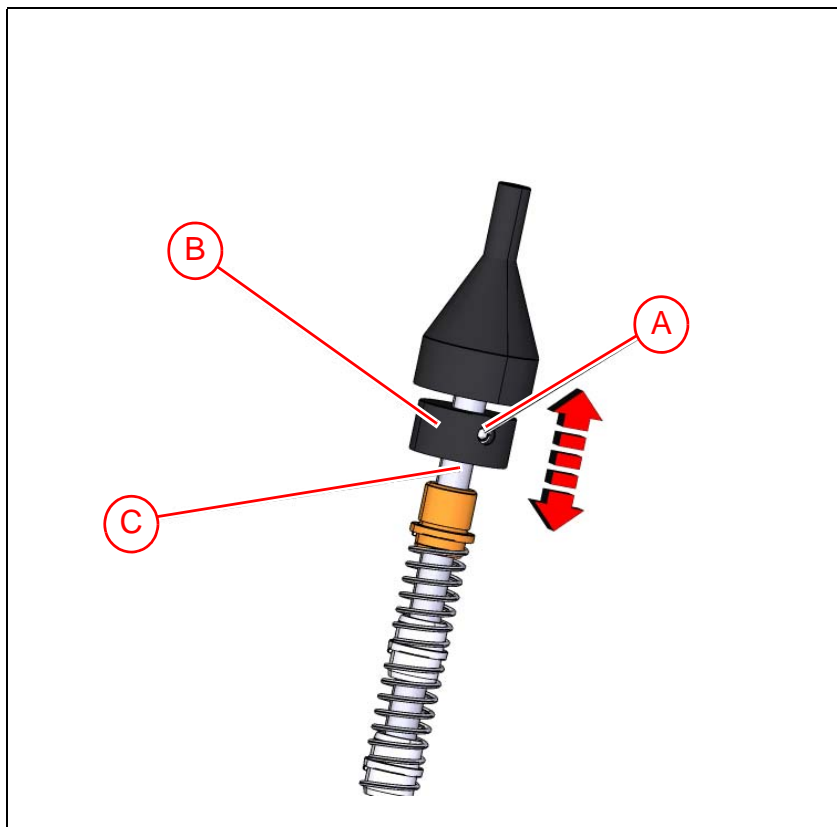

Figure 6-17. Adjusting Z indicator.
Below the swivel ('1' in Figure 6-17) there is a cylinder acting as the z-indicator leveller. If the Z indicators need to be adjusted, the cylinder can be adjusted as follows.
- Loosen the M2 screw ('A' in Figure 6-17) on the cylinder ('B').